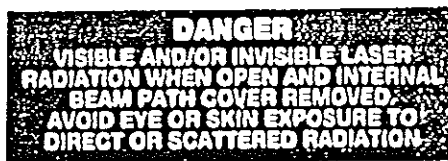

Figure 2.5 Beam path cover label (USA)
- (8) **BEAM PATH COVER LABEL:** The label shown in Figure 2.5 is affixed to the main support rail on each side of the laser head case.